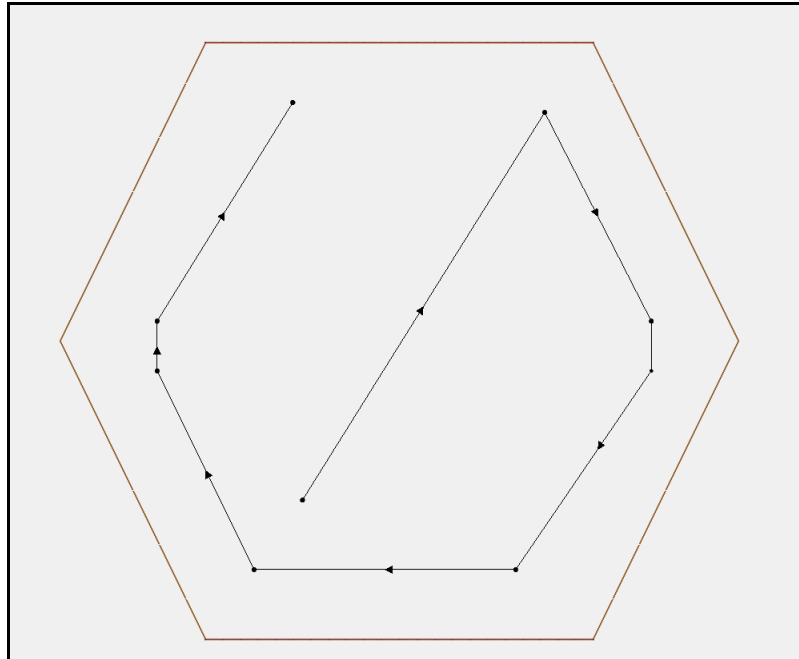

Figure 4 The full boat path
1. Using the **Create Feature Arc**  tool, add additional segments to the arc as shown in Figure 4.
Nodes are able to change the speed of the boat at that location. Vertices simply interpolate their speed based on the nodes before and after them. When finished, the boat path should look like Figure 4.